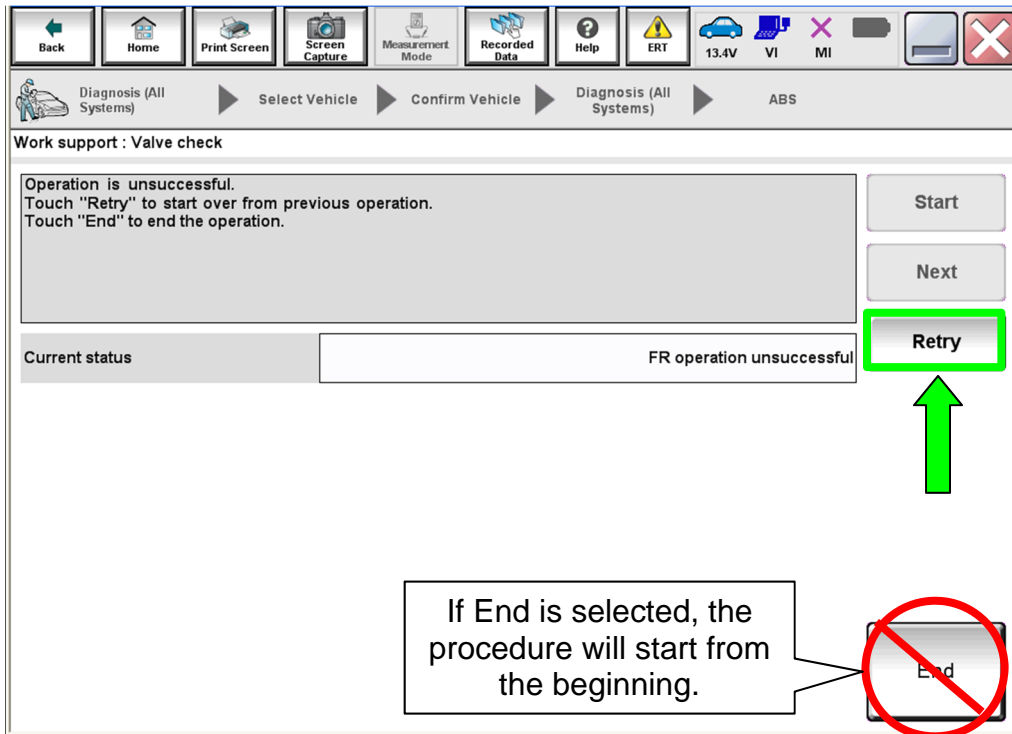

Figure 19
- If the pressure is outside this range, an error will occur as shown in Figure 19.